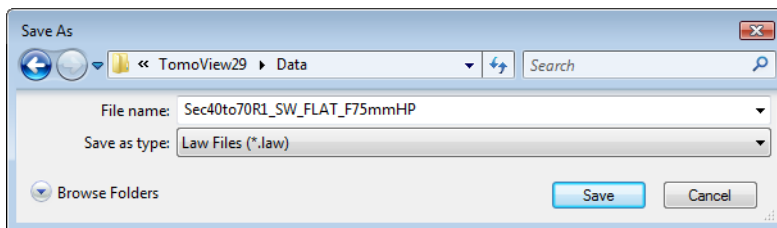

Figure 4-54 The Save As dialog box
- d) Click **Save** (see Figure 4-54 on page 95).